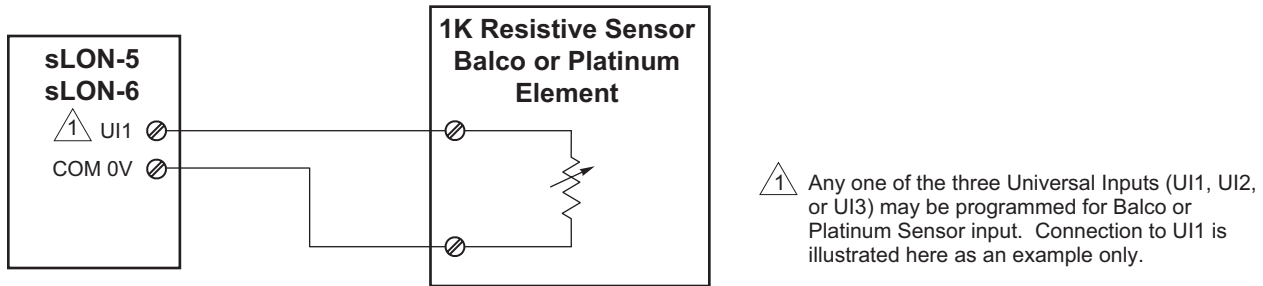

Figure-10 Typical Wiring for 1K Balco or 1K Platinum Sensor Input.
3. 1K ohm Balco (refer to Figure-10).
4. 1K ohm Platinum (refer to Figure-10).
Any of the sLON-5 or sLON-6 controller's UI inputs can be configured for the 1K Balco or Platinum Element Resistive Sensor. Make the connections according to the diagram in Figure-10.